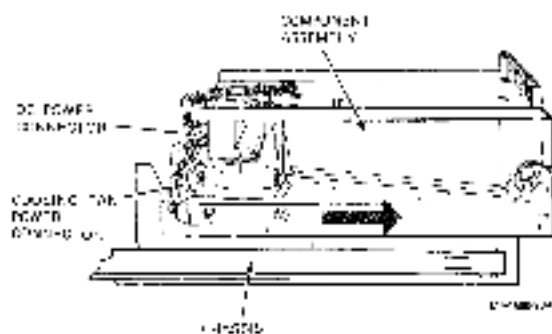

Figure 4-20 Unloading the Rackmount Component Assembly
7. Unplug dc power harness connector (Figure 4-20).